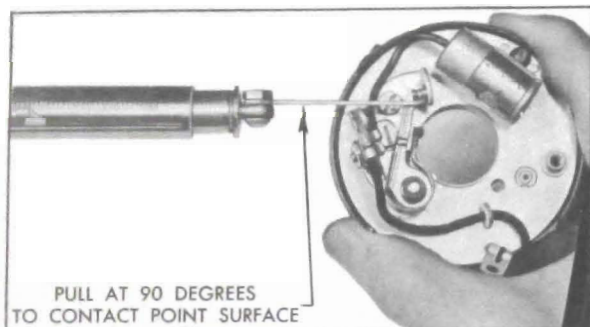

Figure 10-56—Checking Breaker Arm Spring Tension
11. Attach hook of spring scale to breaker arm at side of contact point and check the tension required to just separate the points, with pull exerted at an angle of  $90^\circ$  with the point surface. See figure 10-56. Tension must be 19 to 23 ounces.